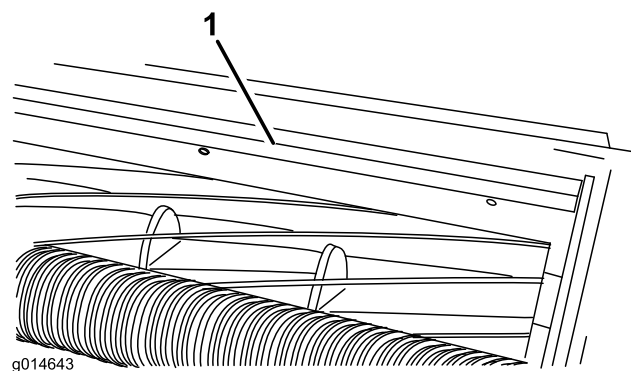

Figure 12
1. Loosen the screws securing the top bar (Figure 12) to the cutting unit.